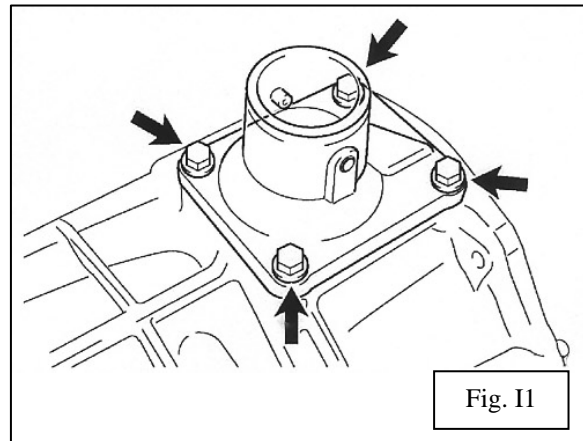

Fig. I1
- ➔ 1. Remove the 4 bolts that secure the shift lever retainer to the transmission. (Fig. I1)